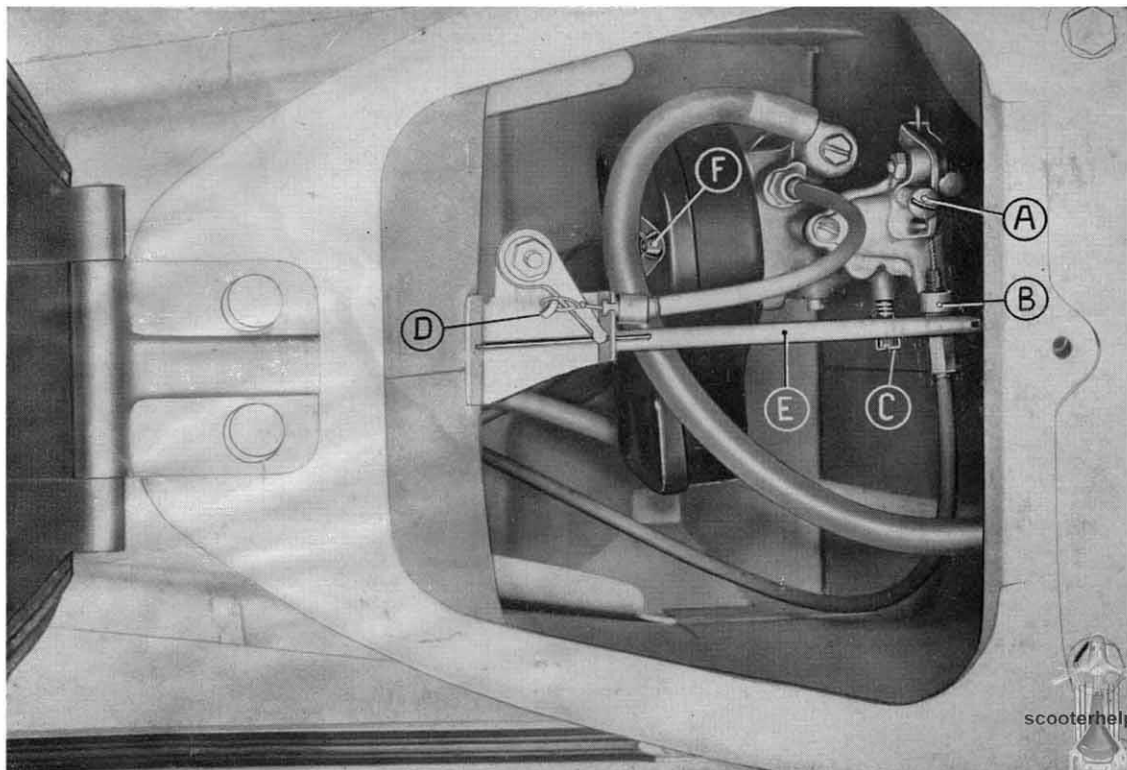

Fig. 12 - To approach the carburetor and air cleaner assy. (For details indicated on the figure, see pag. 16 - 18).
- On the carburettor body a set screw (« B » fig. 12) is provided for adjusting the throttle cable play; this screw is to be reset **only if necessary** or on dismantling and reassembly operations.
- On the air cleaner case, there is a spring loaded screw for adjusting the volume of mixture from idling jet (fig. 9, n. 3 and fig. 12, « C »).
DISMANTLING AIR FILTER	— For dismantling the air filter, pivot the seat forwards (fig. 5), remove the tool box and the choke control cable (the cable end ring can be seen on Fig. 12, « D » then dismount the fuel tap rod (see Fig. 12 « E »); next unscrew the two tee head bolts (Fig. 12 « F ») securing the air filter case and extract it.